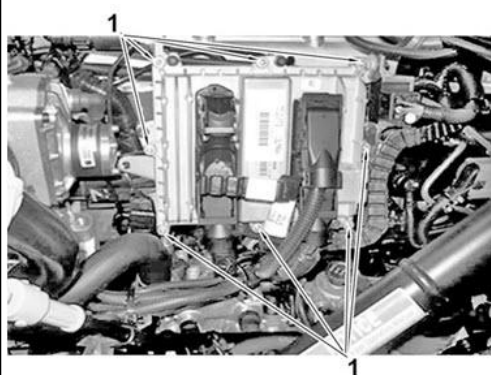

**Figure 19**
1. Bolt (2).
23. Secure ECM to ECM bracket using 8 bolts and torque bolts to 89 In-lb (10N•M) (Figure 19, Item 1 ).